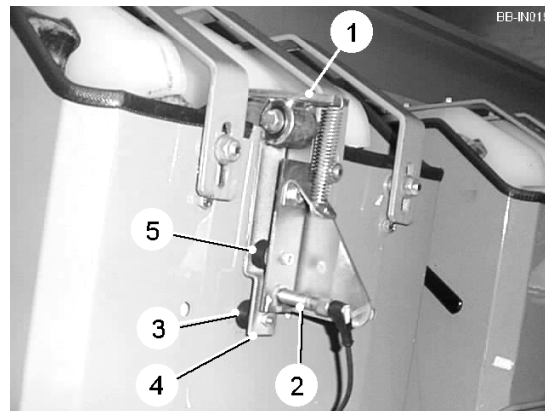

Fig 16
The seed monitors should be adjusted so that the potatoes in the RH cups of each cup belt consistently trip the pivot plates (item 1, fig 16) thus activating the proximity sensors (item 2, fig 16). Initially the bottom stop (item 3, fig 16) should be adjusted so that a gap of approximately 3mm exists between the pivot plate (item 1, fig 16) and the inner face of the tunnel. Loosen the proximity sensor retaining nuts and slowly move the sensor closer to the sensor plate (item 4, fig 16) until it activates. When activated a red light appears on the sensor body. Screw the sensor out until the sensor deactivates and continue for another half turn then retighten the retaining nuts. This setting should leave a gap of approximately 1-2mm between the proximity sensor and the sensor plate. Finally, adjust the top stop (item 5, fig 16) to prevent the sensor plate coming into contact with the proximity sensor. If everything is adjusted correctly the proximity sensor will be activated and deactivated with only a slight deflection of the seed pivot plate (item 1, fig 16).